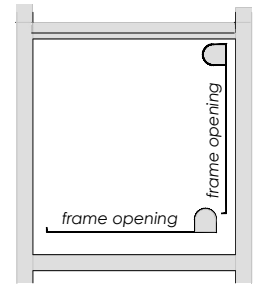

FIG. 1
- a. Make sure vent opening is plumb and level. Measuring corner-to-corner is easiest way to make sure it is square. See **FIG. 1**